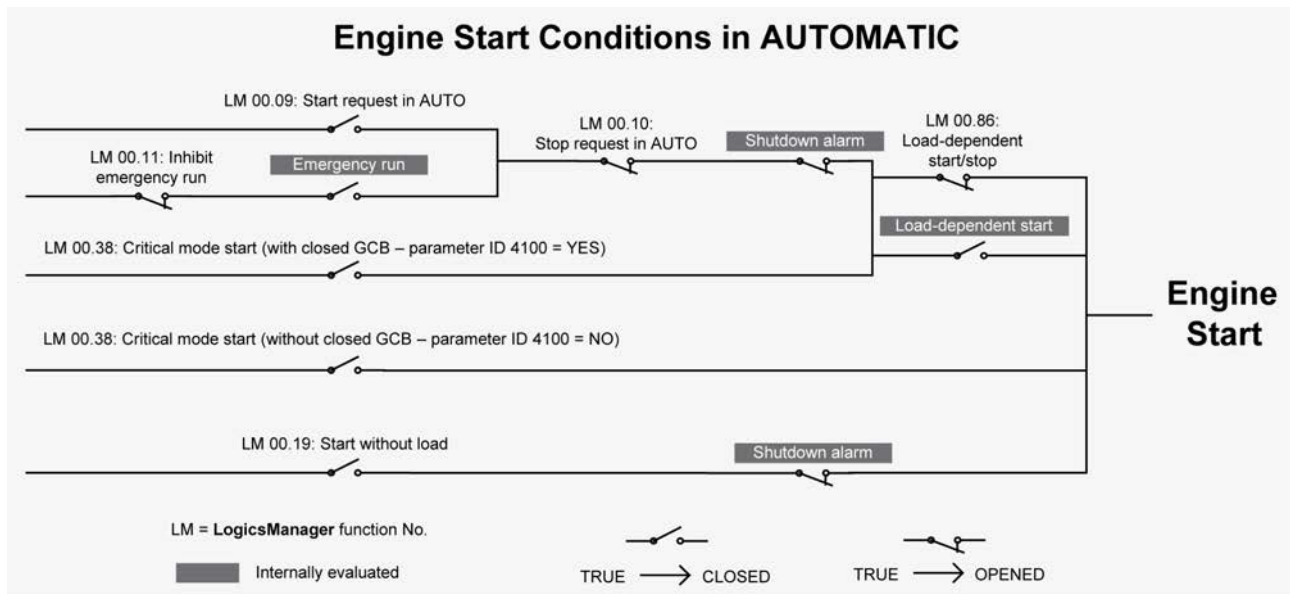

Fig. 97: Automatic run - engine start conditions
*Refer to Fig. 97 and Chapter 9.4.3 "Logical Outputs" on page 693 for the priority of the logical outputs in case that more than one logical output is TRUE.*